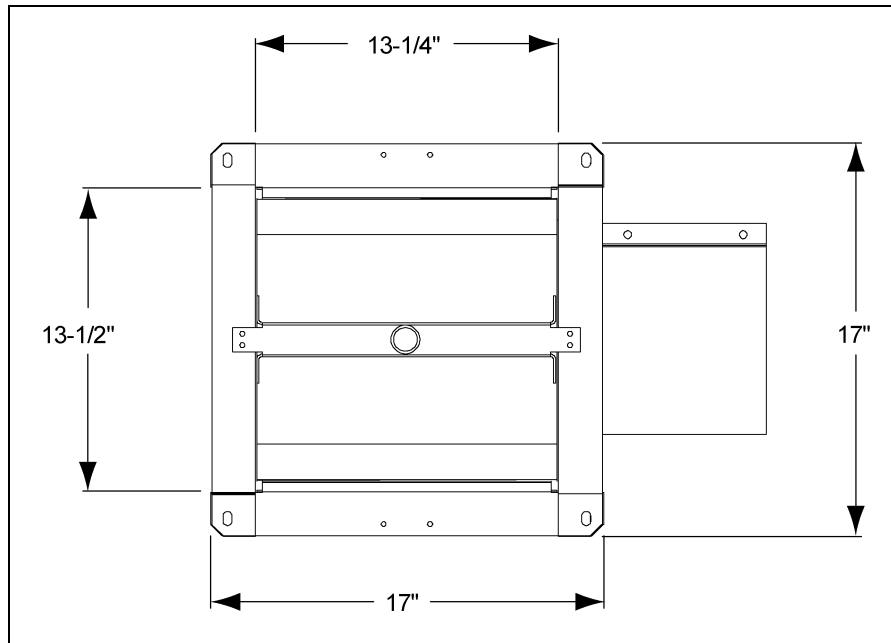

Figure 4B
- The center sump and the unload tube should be installed when the floor reaches the center of the bin. Field cutting of the planks in the center of the bin will be required to allow the center sump to slip into place. The sump is designed to fit within two (2) plank widths. Refer to the sump dimensions in Figure 4B and cut the opening accordingly.